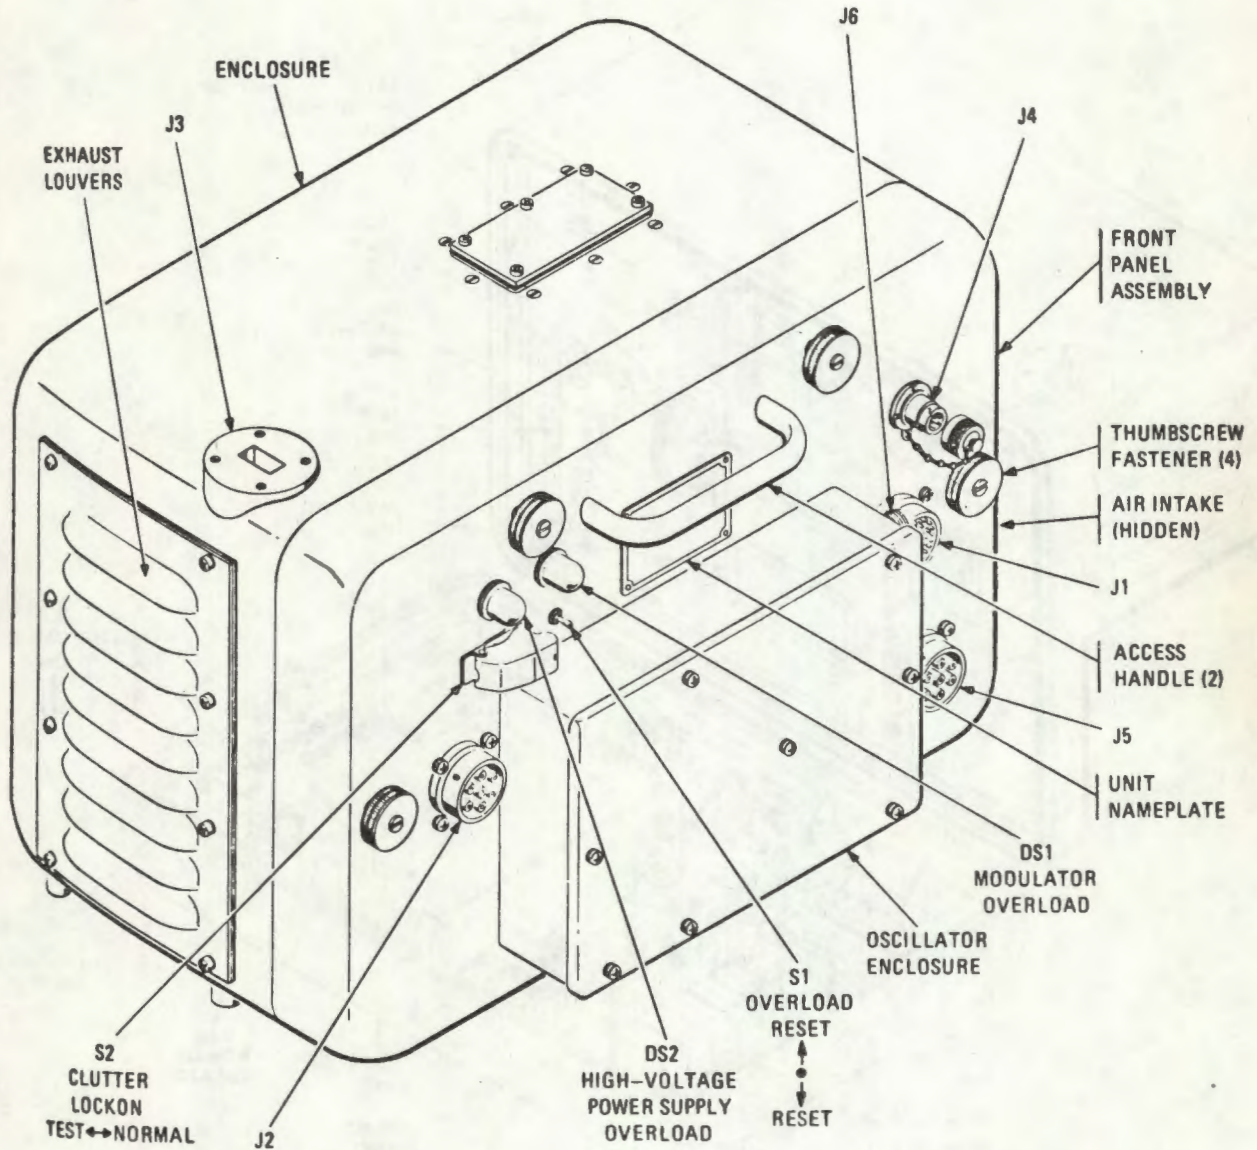

Figure 3-4. Radar receiver-transmitter.
(b) Receiver-transmitter RT-860/VPS-2 (fig. 3-4 and 3-5) generates the high-power transmit pulses that are radiated by the antenna and receives target pulses from the antenna. The received pulses are converted to an intermediate frequency (IF) and applied to the receiver R-1475/VPS-2.